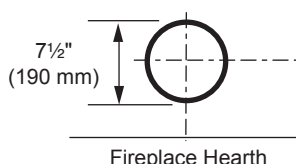

Figure 15 -
- The maximum horizontal distance between the rear of the appliance and the outside face of the outside termination is 20" (508 mm). *Figure 15*
1. Locate and cut the vent opening in the wall. For combustible walls first frame in opening. *Figure 15*
Combustible Walls: Cut a 11½"H x 9½" W (292 x 241 mm) hole through the exterior wall and frame as shown. *Figure 15*
3. Attach vent pipe assembly to the fireplace. Set fireplace in front of its permanent location to insure minimum clearances. Mark the wall for a 11½"H x 9½"W (292 x 241 mm) rectangle hole (for noncombustible material such as masonry block or concrete, a 7½" [190 mm] diameter hole is acceptable). *Figure 15*. The center of the hole should line up with the center line of the horizontal rigid vent pipe end. Be sure to allow for minimum rise. Cut a 11½" x 9½" (292 X 241 mm) rectangle hole through combustible exterior wall (7½" [190 mm] diameter hole if noncombustible). Frame as necessary. Allow 1/4" minimum rise per foot. *Figure 15*
1. Establish vent hole through the wall. *Page 17, Figure 15*